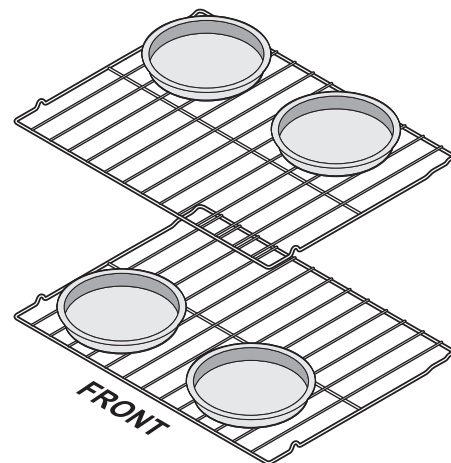

Figure 30: Pan placement for convection baking
- When baking cakes using two oven racks place bakeware in positions 3 and 5 and place bakeware as shown in Figure 30.